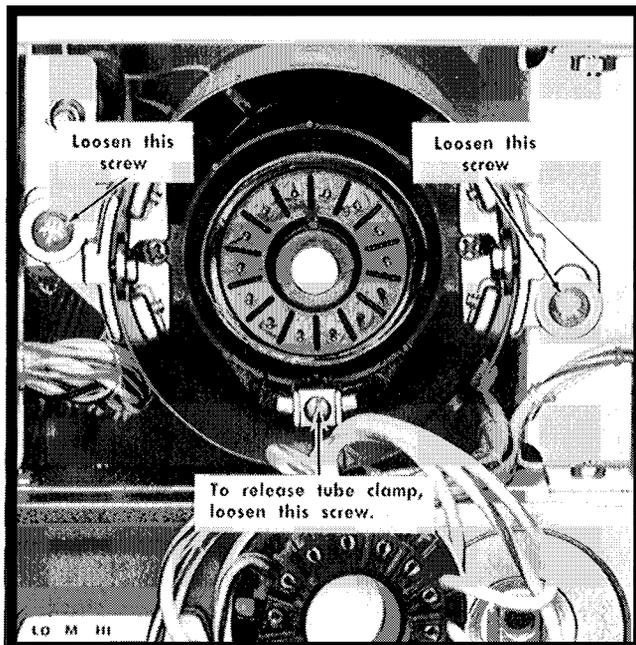

Fig. 4-12. Removing the CRT assembly.
4. Remove the two (2) nuts and graticule light holders which secure the front of the CRT shield to the subpanel. Remove the graticule lights from the studs and position them out of the way.
5. Remove the two phillips-head screws that hold the two right angle mounting brackets at the base of the CRT shield. See Fig. 4-12.